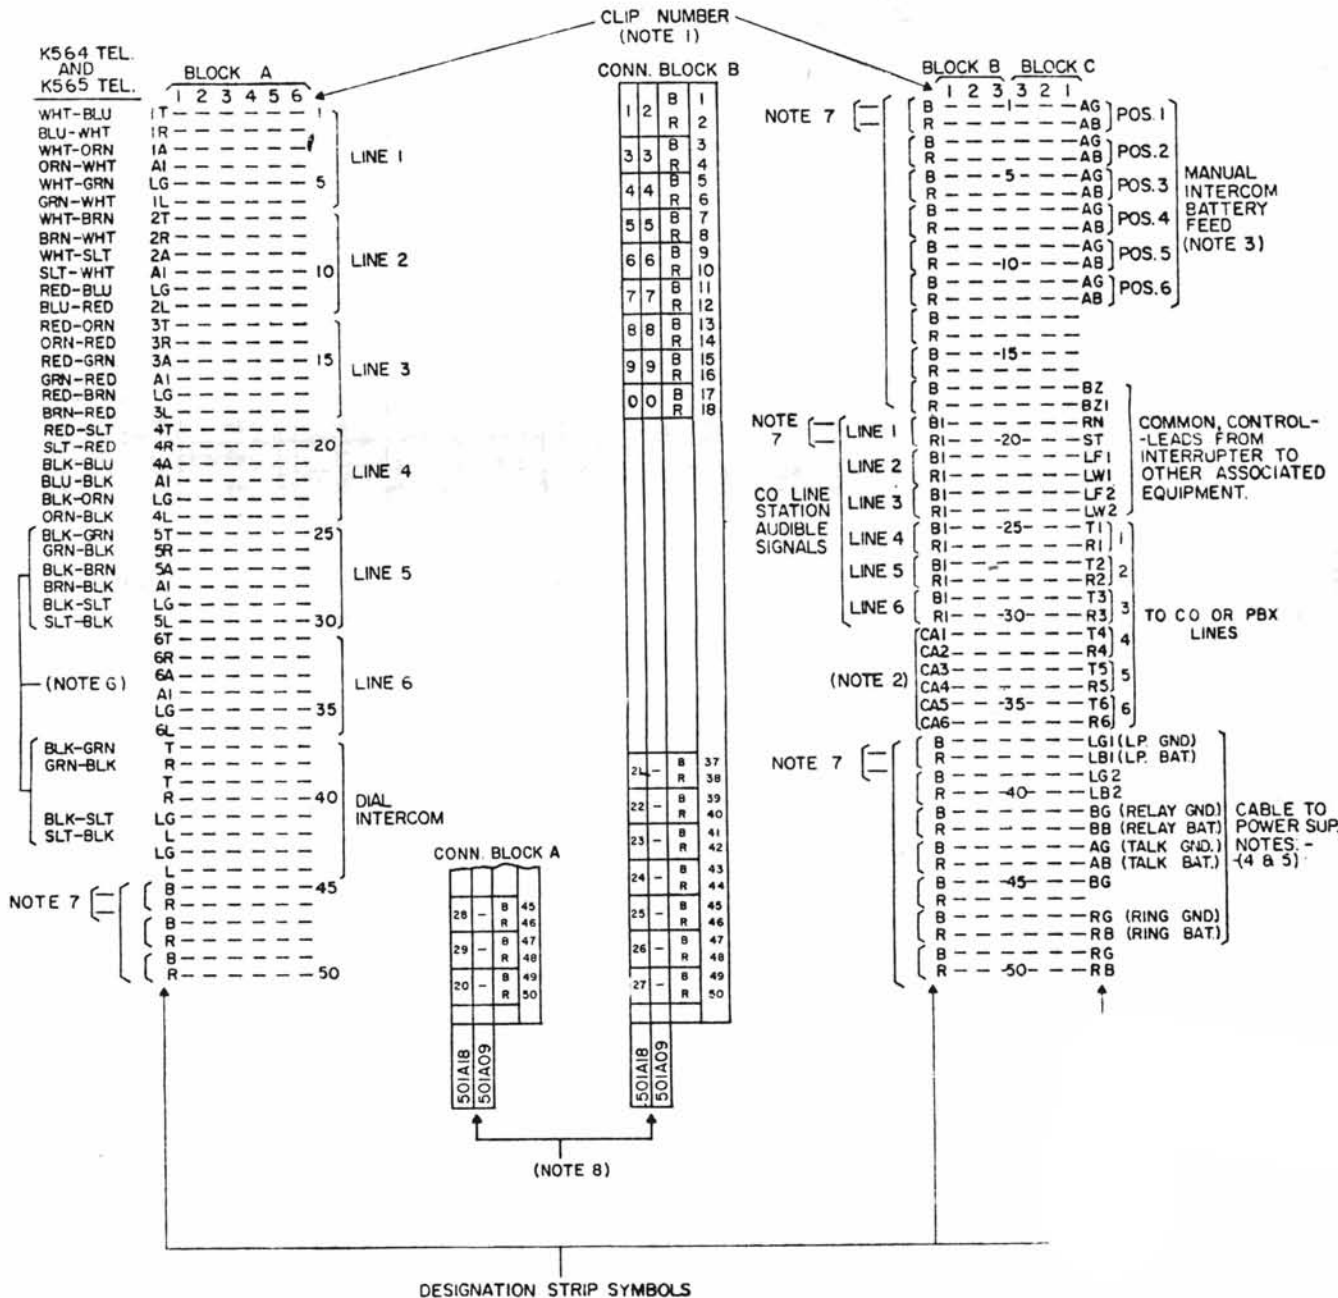

Fig. 3.—K501A Connections
3.06 Figure 3 shows station connections which must be made at Blocks A and B located on the inside back panel of the KSU.